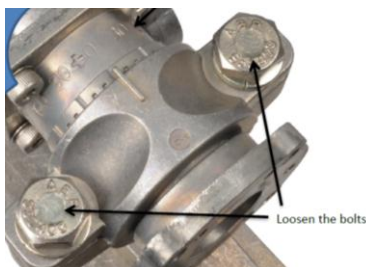

Figure 6
1. On the radio assembly, loosen the two bolts at the top of the circular bracket shown in Figure 6.